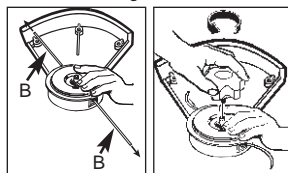

Fig. 15E
7. Install the spring (D) over the spindle (E). Insert each end of the line through an eyelet (J) in the housing (F) (Fig. 15E).
8. Lower the spool into the housing (E) while feeding the line through the eyelets (J). Ensure the spring seats itself into the spool (Fig. 15E).